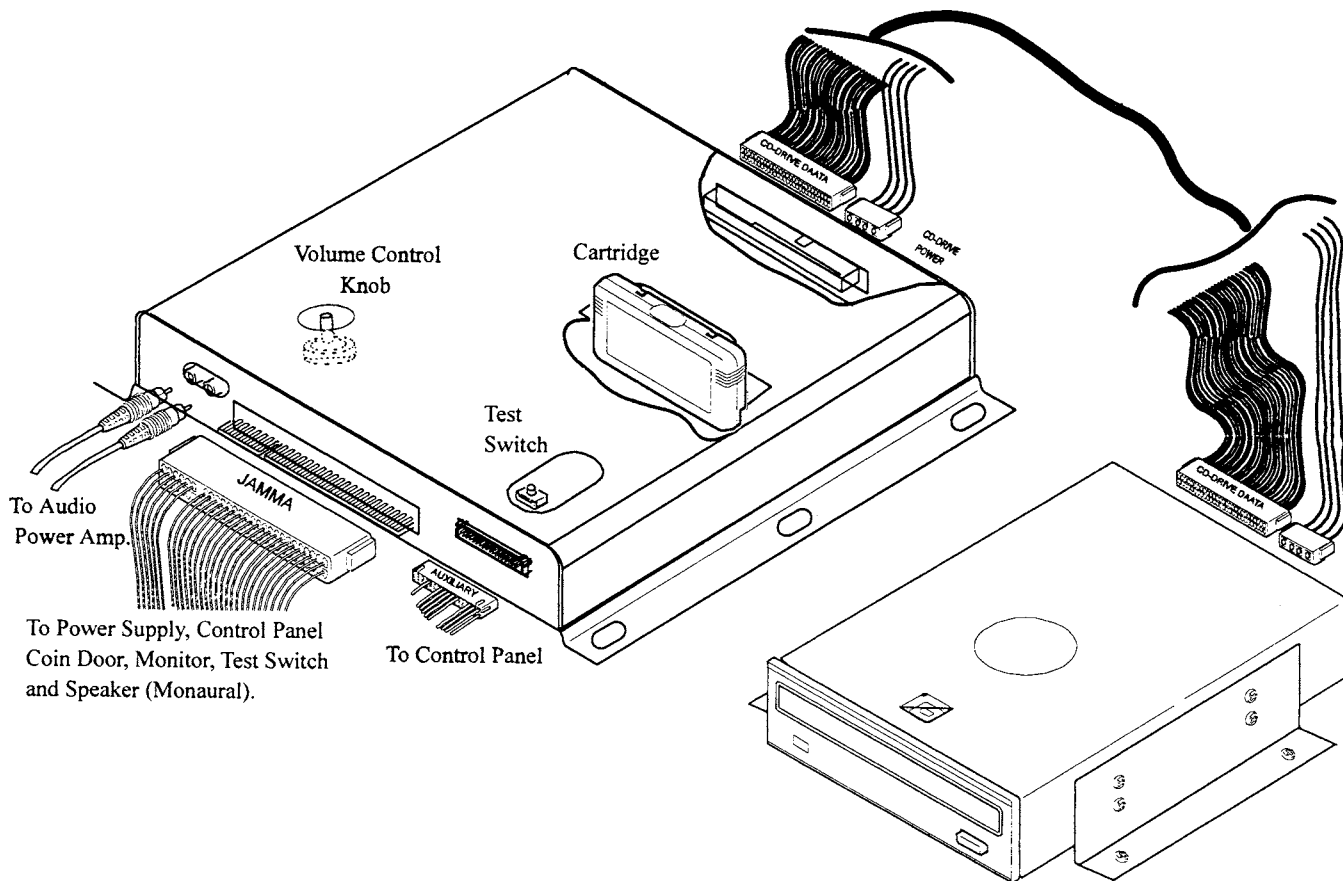

Figure 11: PC Board and CD-Drive cable connection
- 27. Attach Power and Data Cable to CD-Drive. Connect other end to SCSI combination connector on the main PCB (Figure 11).
- 28. Connect the JAMMA harness connector to the edge connector on the PC Board (Figure 11).
- 29. Attach the auxiliary cable connector to the PC Board. (Figure 11).
- 31. If you elect to use Q_Sound Audio Amplifier, connect audio cable to audio output on the PC Board. (Figure 11).